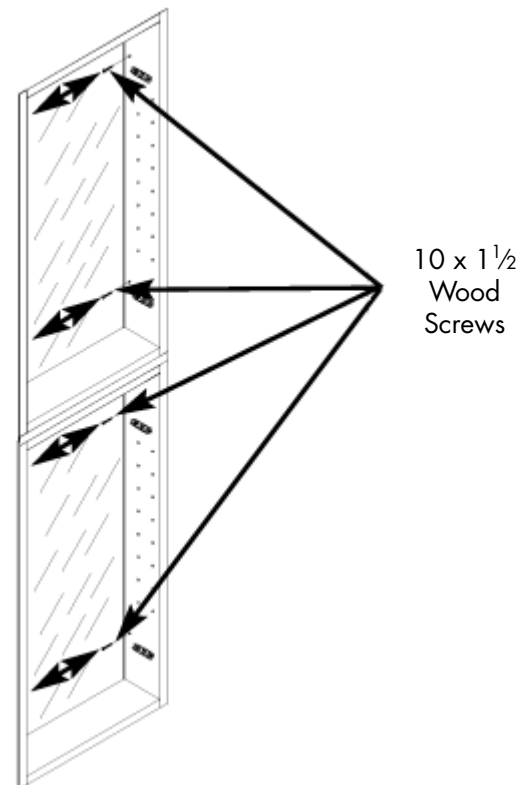

FIG 4
8. Insert four (4) #10 x 1 1/2" wood screws into four locations provided in each cabinet for recessed installation (Fig 4). Be careful not to overtighten. Make sure cabinets are centered in rough opening.